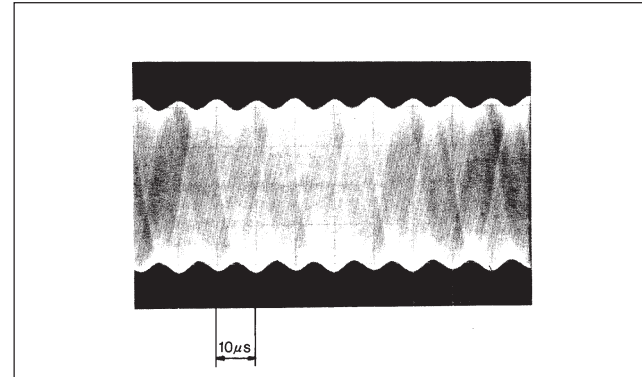

Fig. 8
- ⑤ When the RV1 volume is set near the center and the scale is moved, the waveform shown in Fig. 8 appears. At this point, adjust the RV3 volume to minimize the envelope ripple. Then, finely adjust the RV1 volume to minimize the envelope ripple.